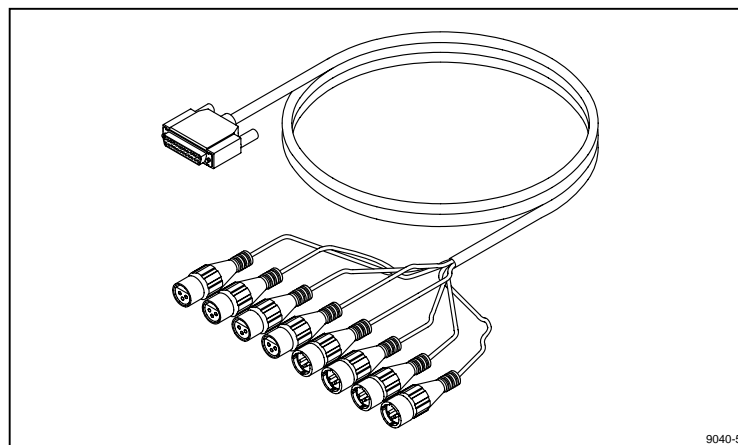

Figure 2-9. Breakout Cable
1. Attach the optional Longitudinal Time Code breakout cable (Figure 2-9) to the 25-pin DIN connector.